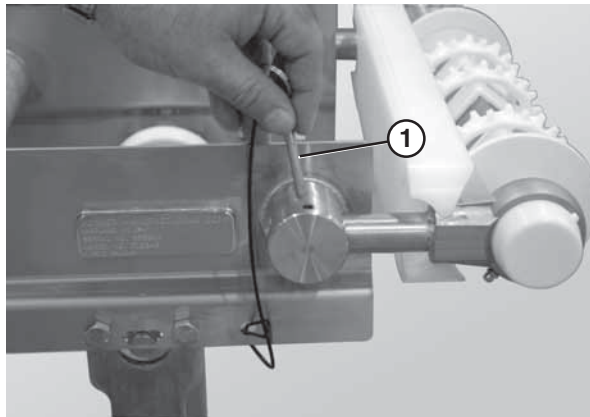

Figure 64
5. Remove the pull pin (**Figure 64, item 1**).
1. Remove the pull pins (**Figure 64, item 1**).